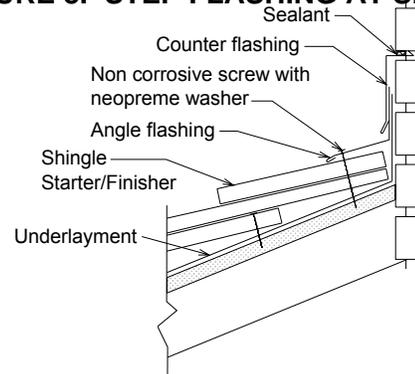

FIGURE 9. ANGLE FLASHING
5. At the front of dormers, chimneys and other headwalls, extend angle flashing at least 3" up walls and 3" over shingles with $\frac{1}{2}$ " hem for stiffness. Counter flash as necessary. (Figure 9)